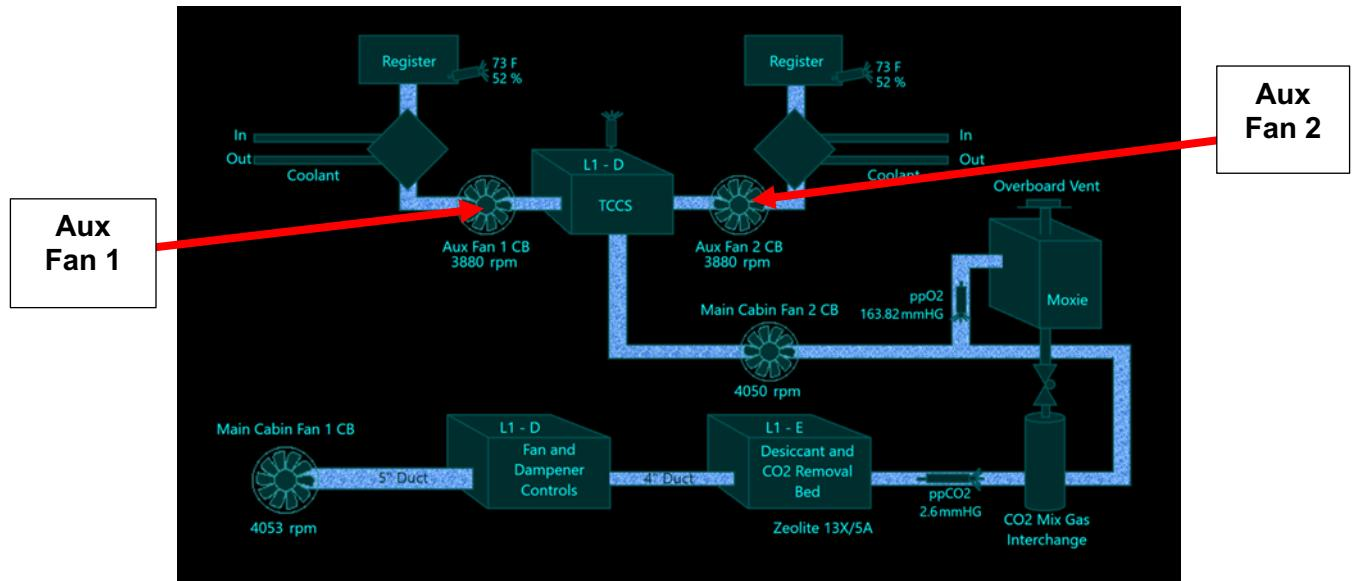

Figure 2: Aux Cabin Fan Power Switches in HSS CDRA
2.1 On HSS CDRA display, touch Aux Cabin Fan 1 icon to deactivate fan (see Figure 2).
- 2.2 On HSS CDRA display, touch Aux Cabin Fan 2 icon to deactivate fan (see Figure 2).